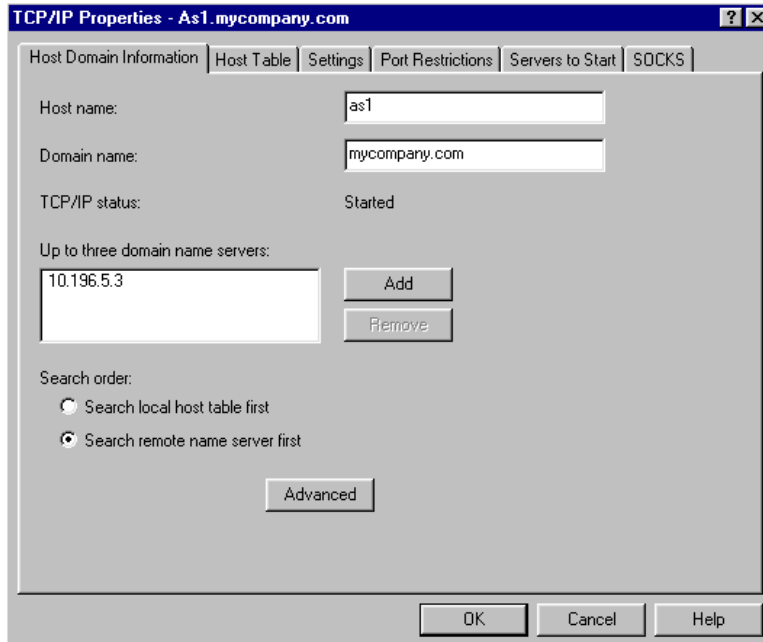

Figure 461. Host Domain Information
2. Select **Properties (E)** from the context menu to make detailed changes to the configuration of your TCP/IP interface. Figure 461 on page 802 shows the TCP/IP Properties window. Click **Host Domain Information** to specify the host domain information for your AS/400 TCP/IP communication. Specify the host name, the domain name, and up to three domain name servers. You can also specify the search order and set advanced TCP/IP settings.
- **Search order:** Specifies whether you want the local host table searched before the domain name server. Figure 461 on page 802 shows the Host Domain Information dialog.